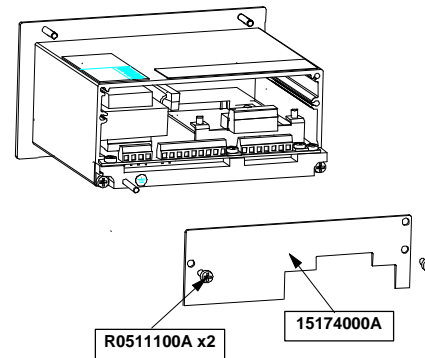

Figure 8-4 Installation in Panel Mount Enclosure
12. Attach the new Rear Panel (15174000A) to the enclosure using the two screws (R0511100A) removed in step 2. See Figure 8-4.